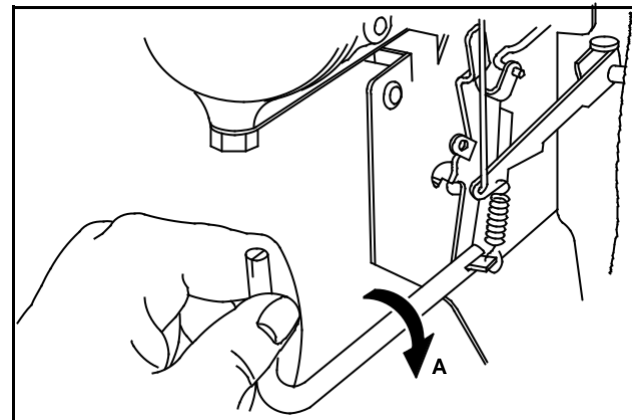

Fig. 36
3. Set engine speed per Table No. 10, Specifications, Page 30 by bending governor tang, Fig. 36.